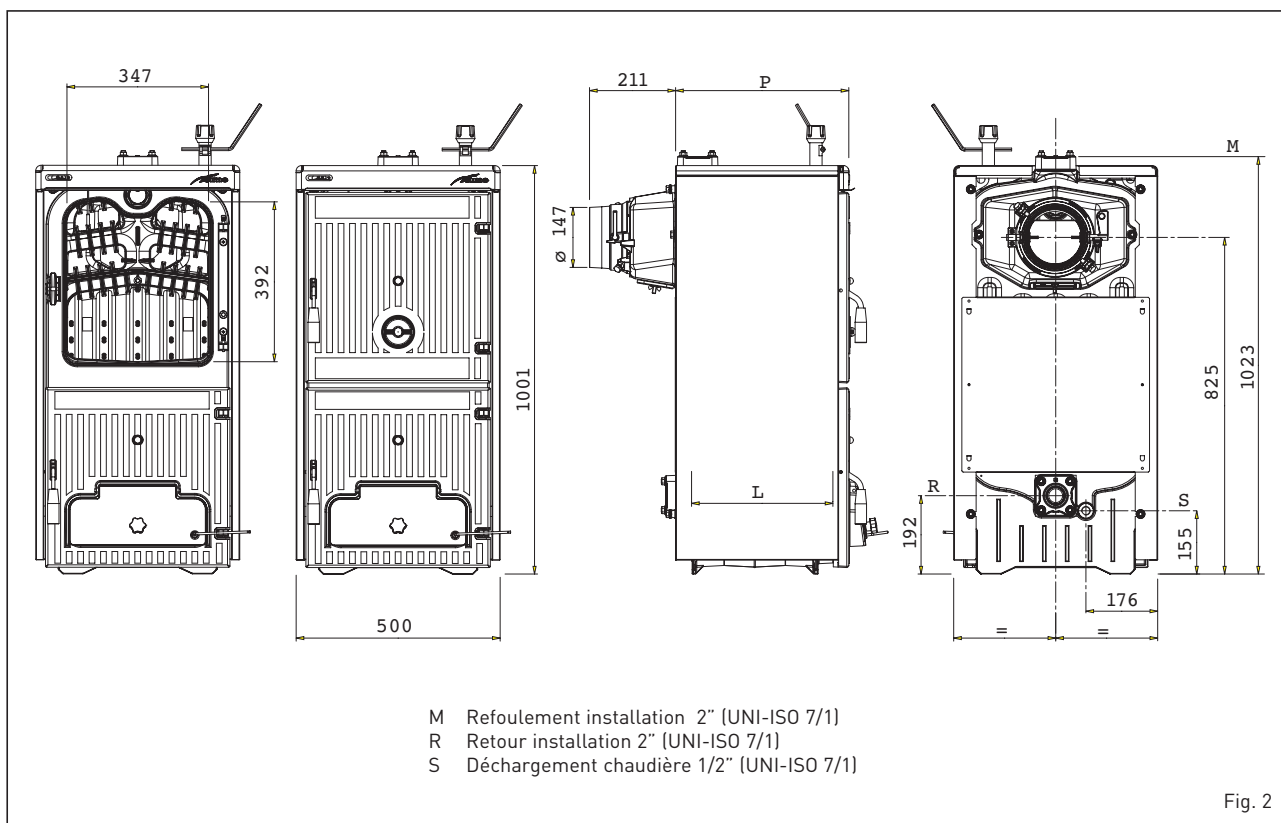

Fig. 2
3.2 DIMENSIONS D'ENCOMBREMENT (fig. 2)